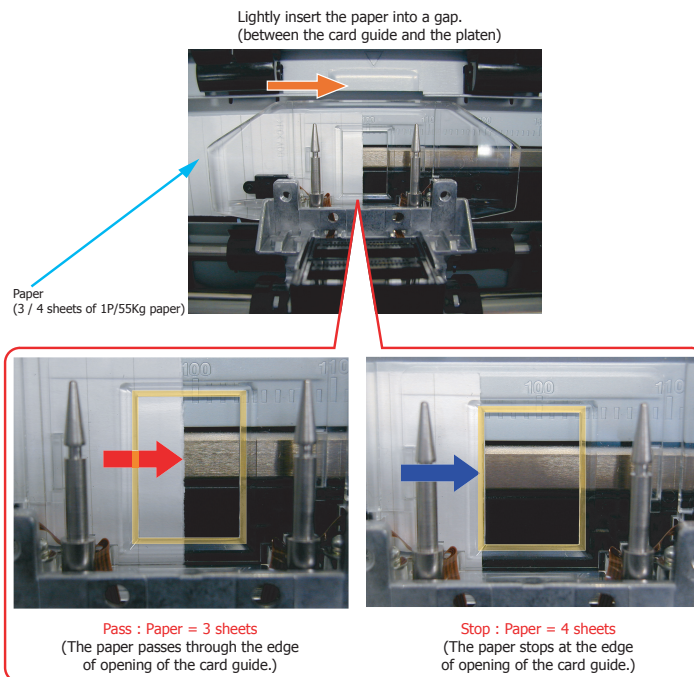

Figure 5-9. Judging the Gap Level
4. Refer to Figure 5-9 and verify that three sheets of paper fit in a gap between the platen and the card guide, but four will not fit. If the gap is not correct, repeat from the step 3.